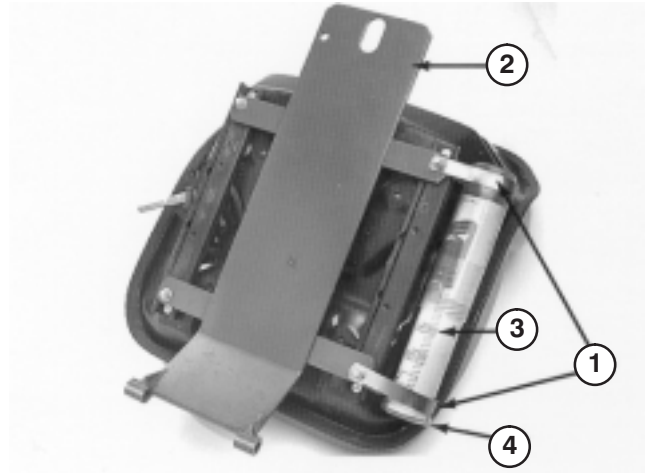

Figure 7
- Loosely secure (2) R-clamps to right side of seat bottom with 2 capscrews and flat washers supplied in kit (Fig. 7). Install manual tube into R-clamps and tighten capscrews (Fig. 7).